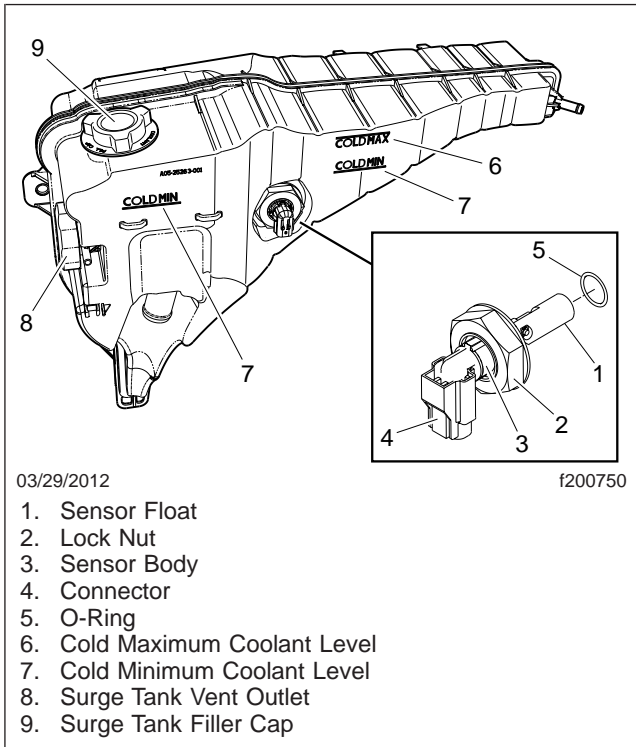
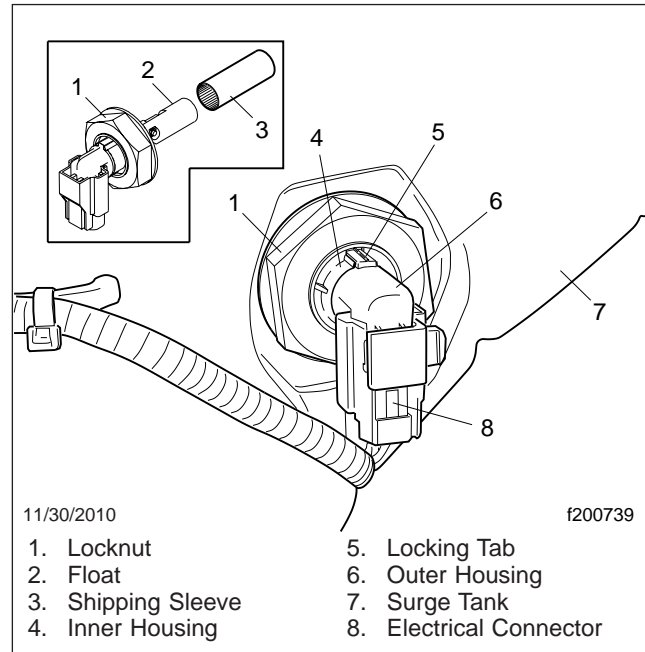

Fig. 1, Low Coolant Level Sensor Installation
Fig. 2, Low Coolant Level Sensor
3. Fill the surge tank to "COLDMAX". See Fig. 1.
The low coolant level sensor is located in the coolant surge tank on EPA07 and later vehicles. See Fig. 1. The low coolant level sensor is assembled with a two-piece housing held together with two locking tabs, one on the top and the other on the bottom. See Fig. 2.